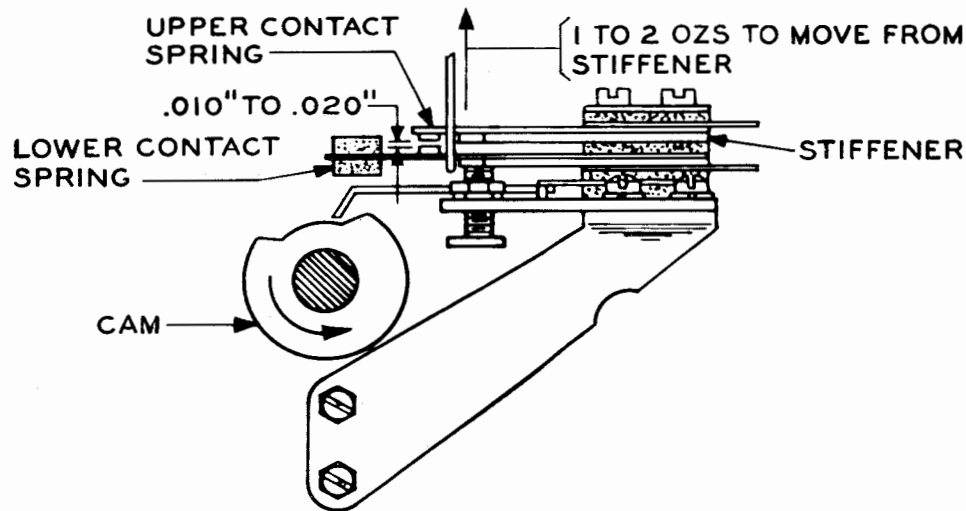

Figure 14
- (3) With the camfollower on the low part of its cam and with the contact springs and stiffeners approximately parallel to the camfollower, there should be a clearance of minimum 0.010 inch, maximum 0.020 inch between the contact points, as shown in Figure 14.
- (4) With the camfollower on the low part of its cam and a vertical upward pull applied under the lower contact-spring, it should require a tension of minimum 1 ounce, maximum 2 ounces to start the lower contact-spring moving away from its stiffener, as shown in Figure 14.